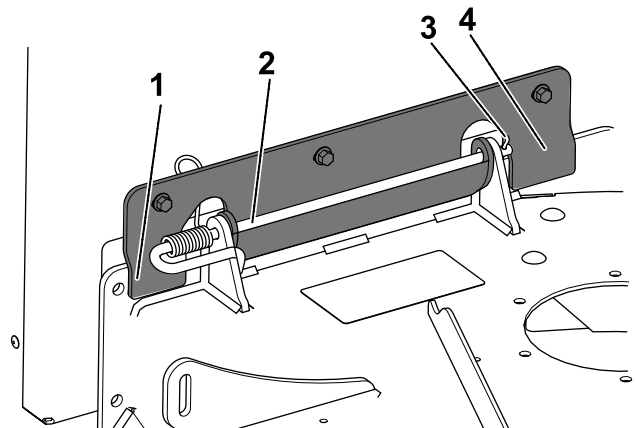

Figure 12
1. Position the front and rear tab on the bagger mounting bracket onto the machine as shown in Figure 12.
4. Install the previously removed rod and corresponding cotter pin; refer to Figure 12.